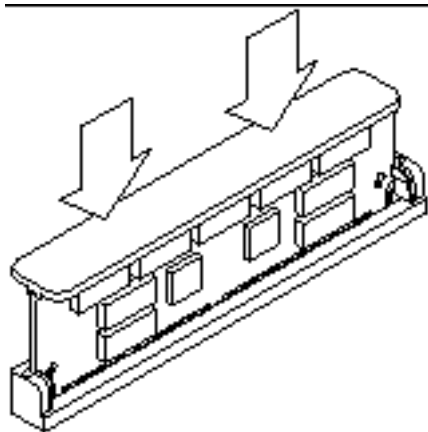

Figure 8-7 Using the Insertion Tool
8. Place the grooved surface of the insertion tool on the upper edge of the DSIMM board. See Figure 8-7.